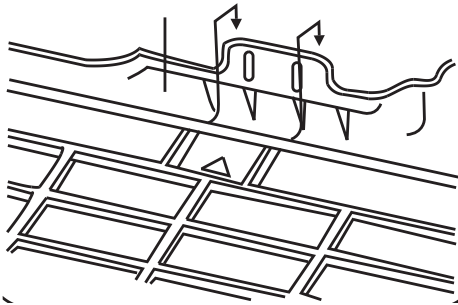

Fig. 13 – Hanging Indoor Unit
4. Hang indoor unit on upper hooks of wall mounting plate (as shown in Fig. 13)